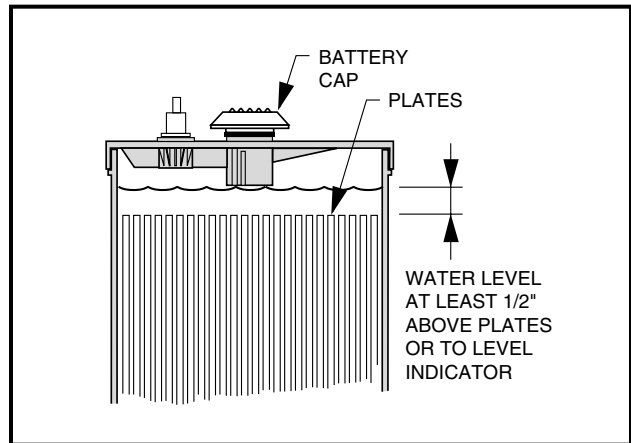

FIGURE 22
2. The water level in the batteries should be checked weekly (**See Figure 22, Page 29, for proper level**). Add water only after charging unless the water level is below the top of the plates. In this case, add just enough water to cover the plates, charge and then check the level again. Never charge batteries if plates are exposed above water level. For best battery life, add only distilled water.